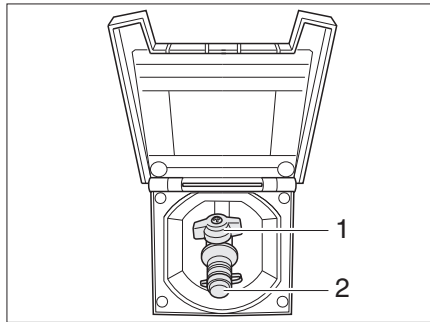

Fig. 228 External gas connection, gas isolator tap closed
The external gas connection (Fig. 228) is located at the right-hand side of the vehicle. In exceptional cases the external gas connection is also located on the left-hand vehicle side or the rear.
- Connect the external gas device to the connection point (Fig. 228,2).
- Open the gas isolator tap (Fig. 228,1).